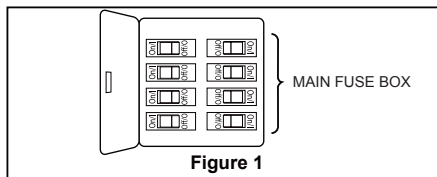
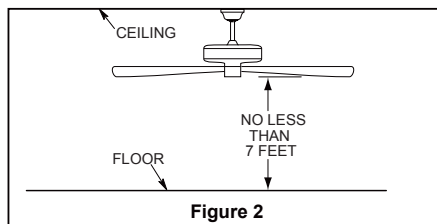
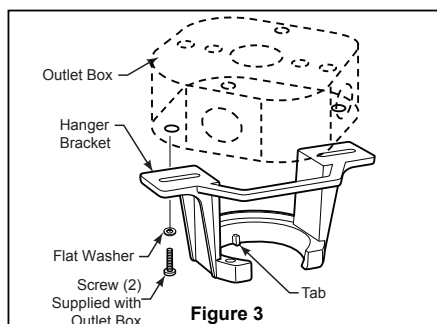

Figure 1
Figure 2
Figure 3
Your new ceiling fan will require a grounded electrical supply line of 120 volts AC, 60 HZ, 15 Amp Circuit. Electrical code requires use of a fan-rated outlet box to support the extra weight and motion associated with a ceiling fan. A fan-rated box will be labeled as such and typically supports up to a 70lbs ceiling fan. Fan-Rated Outlet Boxes vary in ratings and design. Ensure the ratings of your ceiling fan outlet box meet the requirements for the ceiling fan being installed. Figure 1, Figure 2 and Figure 3 depicts different structural configurations that may be used for mounting the outlet box.
Low-profile use (Figure 1)
Deep-profile use (Figure 2)
Brace use (Figure 3)
1. Remove the two set screws and locking nuts in the downrod support of the motor assembly and retain for reinstallation in Step 4 of Page 8. Disassemble the upper housing cover by removing the six screws at the top of the motor assembly and retain for Step 3. Carefully twist and lift off the cover. (Figure 1)
2. Slide blades through slots in motor housing and attach to the motor hub using the #8-32 washer head screws and fiber washers. Make sure the screws securing the blades to the motor hub are tight and are properly seated. (Figure 2)
3. Reassemble the upper housing cover to the motor assembly using the previously removed screws. (Figure 3)
- ☐ 1. Remove the hanger ball portion from the downrod/hanger ball assembly by loosening the set screw in the hanger ball until the ball falls freely down the downrod. Remove the pin from the downrod, then remove the hanger ball. Retain the pin and hanger ball for reinstallation in Step 6. (Figure 1)
- ☐ 2. Remove the hairpin clip and clevis pin from the bottom of the downrod. Retain the pin and clip for reinstallation in Step 4. (Figure 2)
- ☐ 3. Loosen the two set screws and locking nuts in the downrod support of the motor assembly. Route the brown, blue, red, gray and yellow wires through the downrod. (Figure 3)
To avoid possible fire or shock, be sure electricity is turned off at the main fuse box before hanging. (Figure 1)
The fan must be hung with at least 7' of clearance from floor to blades. (Figure 2)
1. Securely attach the hanger bracket to the outlet box (not included) using the outlet box screws and washers supplied with the outlet box. (Figure 3)
- ☐ 1. To set the code on receiver unit, slide dip switches to the same positions as set on the remote control. (Figure 1)
To avoid possible electrical shock, be sure electricity is turned off at the main fuse box before wiring. (Figure 2)
- ☐ 2. Slide the receiver into the hanger bracket before wiring as shown in figure 3.
- ☐ 2. Securely attach and tighten the canopy screw cover over the shoulder screws in the hanger bracket utilizing the keyslot twist-lock feature. (Figure 2)
2. Remove the three screws in the light kit assembly. Retain the screws for Step 4. (Figure 2)
- ☐ **2.** Restore electrical power to the outlet box by turning the electricity on at the main fuse box. (Figure 2)
- ☐ **3.** Remove the battery cover from remote control by screwdriver and retain the screw for later. (Figure 3)